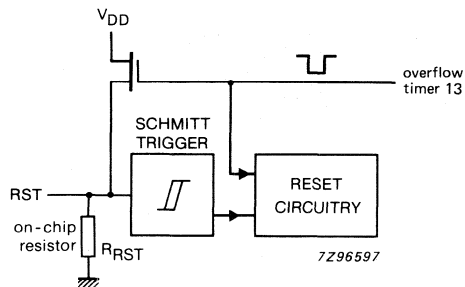

Fig. 16 Reset configuration at RST.
**Reset circuitry** (see Fig. 16)